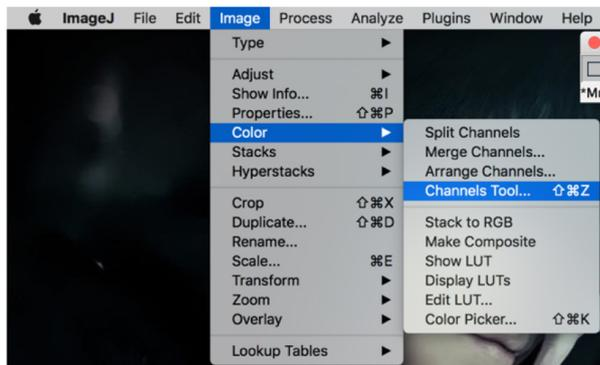

Figure 19. Open the 'Channels Tool'
14. Click on the picture, then go to the 'image' > channels tool (Figure 19).